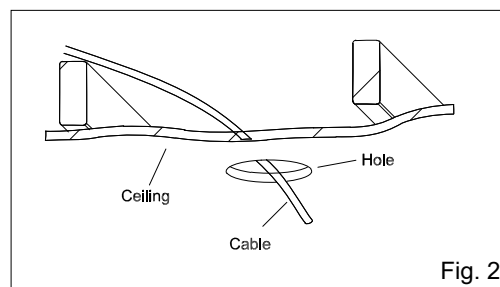

Fig. 2
- Run non-metallic (NM) cable (also known as Romex) from your source power to the first hole, providing 6" (15.2cm) to 8" (20.3cm) of slack extending below the hole. Cable up to 12 AWG may be used (Fig. 2) (Warning – Use cables having wires rated 90°C or more.).